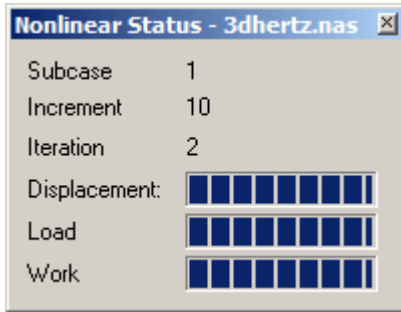

Figure 69 – Nonlinear Status Window
By default, nonlinear static and transient status windows will appear when performing a nonlinear (NL) analysis (see Figure 69). The status window shows key information such as the increment/time steps and the convergence of the current increment/step. To turn it off, you can either close the window or go to View and uncheck the nonlinear static/transient status window option.